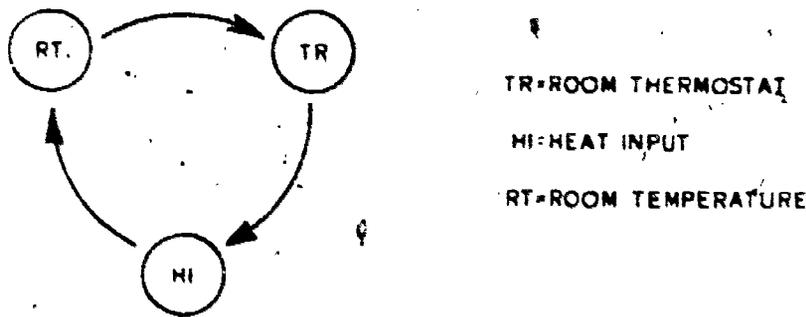

Figure 4. Closed Loop System
In figure 4, the room thermostat (TR) measures the temperature of the air surrounding it. As the temperature rises, the thermostat causes a reduction of the heat input (HI) to the room, which allows the room temperature (RT) to stop rising or to drop. This, in turn, affects the thermostat, which readjusts its influence and on heat input until a balance is stabilized. Thus, one change is dependent upon another and a "closed loop system" has been established.